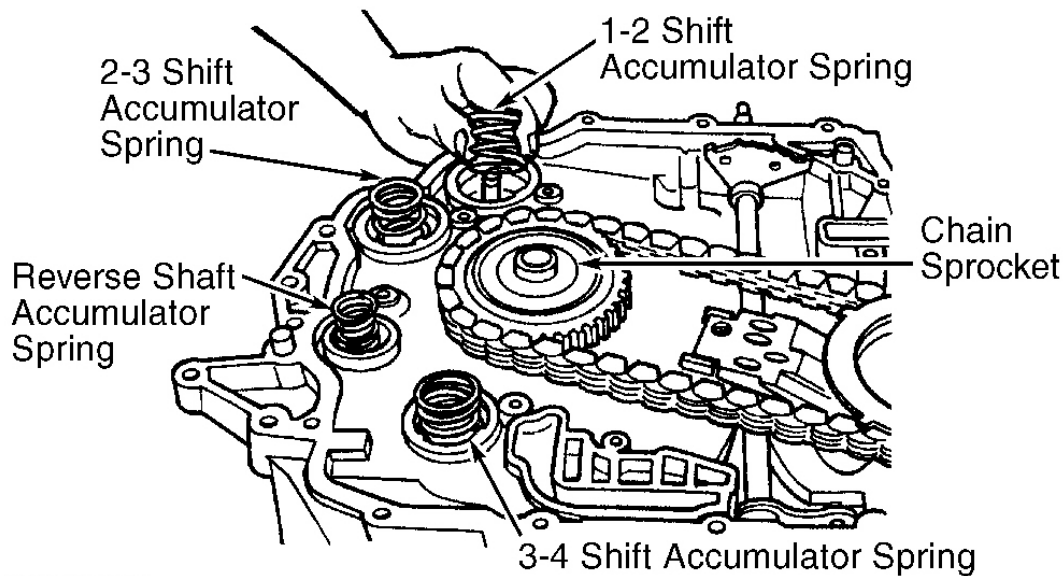

Fig. 11: Identifying Accumulator Springs
11. Chain cover is under spring pressure; remove carefully. See **Fig. 10**. Note location of accumulator springs and tag to ensure reassembly to original location. See **Fig. 11**. Plastic sprocket thrust washers may stick to chain cover or chain sprocket when chain cover is removed. Mark and remove No. 1 (plastic) thrust washer. Mark and remove No. 3 (plastic) thrust washer.